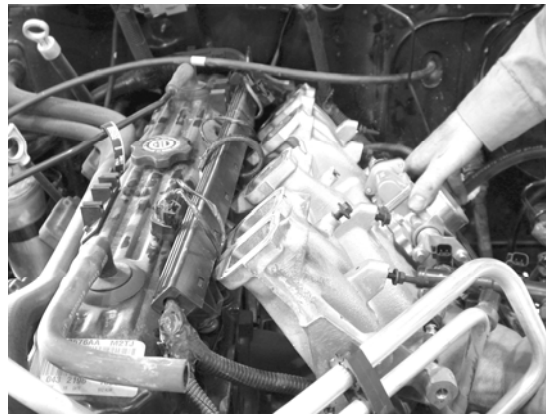

Figure 6
14. Once all the bolts have been removed, lift the intake manifold out as shown in figure 6. There is very little room so be patient and work it out paying attention not to damage the air conditioning hoses.